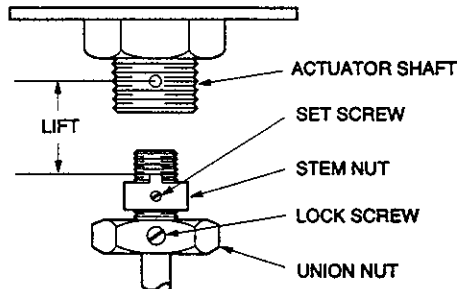

Figure 6. Stem Nut Adjustment
1. For proper seating pressure and correct valve lift, distance from bottom of actuator shaft to top of stem nut must be measured, as shown in Figure 6 (refer to valve installation instructions). The "lift" dimension is measured with valve stem in DOWN position (closed) and actuator shaft in UP (energized) position. [Refer to valve installation instructions for "lift" dimension.]